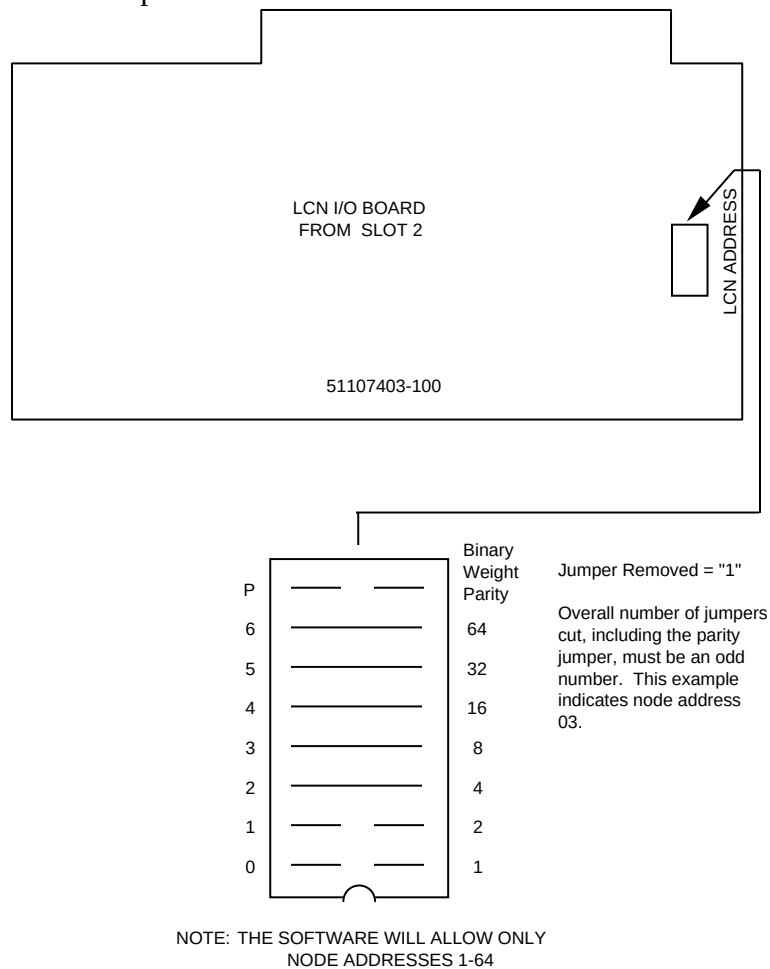

Figure 3-1 — LCN I/O Board, Address Jumpers 2923
2. Remove the LCN I/O paddleboard from rear slot 2 in the CLM module. Refer to Figures 3-1 and 3-2 for instructions and the location of the pinning header on the LCN I/O board. Pin the node address as shown. Be sure to adjust the parity jumper as required.